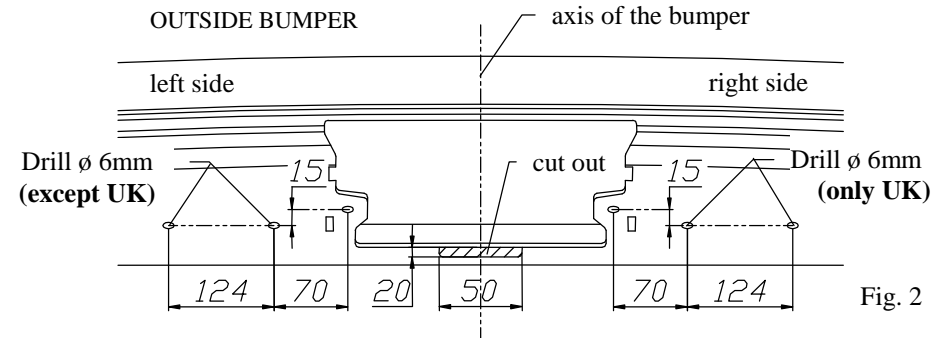

Fig. 2
3. In a bumper drill holes  $\phi$  6mm for fog light mounting and saw its fragments according to figure 2.